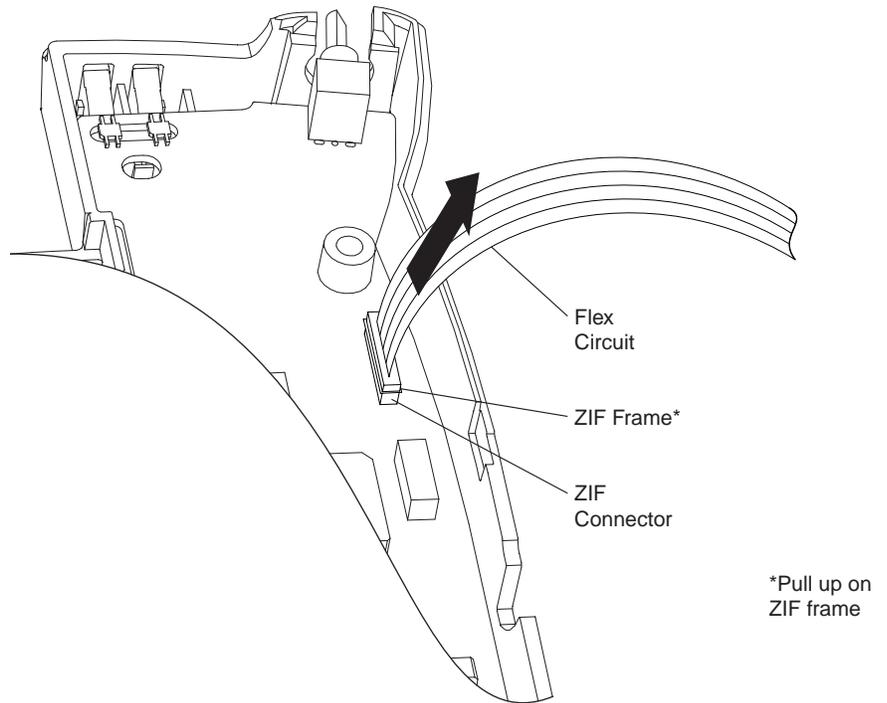

Figure 8 Disconnecting the Flex Cable
10. The universal coax subassembly (31) is now exposed. Gently twist (in a clockwise direction) and pull outward on the header until it clears the pocket lid housing (26). Then, pull the entire assembly upward, being careful not to pull on the flex circuit ribbon cable. Set the subassembly next to the unit.
11. Gently lift the chassis subassembly (8) away from the back housing (14), and set it on a flat working surface for further disassembly.
12. Gently press the purple pocket eject button (27) to disengage the pocket housing (5), and guide it out of the chassis. The eject spring (10) will fall off during this step. Set the pocket housing subassembly aside.
14. Referring to Figure 8, gently lift up the opening frame on the ZIF flex circuit connector, located on the PC board assembly (11), and slide the flex circuit ribbon out of the connector.
15. If necessary for replacement, remove the link (2) from the universal subassembly by twisting the link and prying it out of the float bracket holes.
1. Orient the console so that the volume knob (19) faces away from you and the DB-25 connector (on the back of the PCB) faces toward you. While holding the back housing (14) and the PCB (11) stationary, gently lift upward on both sides of the chassis (8) until the chassis disengages. Do not lift up on the PCB. Continue to lift up on the left side of the chassis while holding the right side stationary, thus rotating the chassis up and away from the back housing. Lay the chassis upside down next to the back housing.
2. Referring to Figure 8, gently lift up the opening frame on the ZIF flex circuit connector, located on the PC board (11), and slide the flex circuit ribbon out of the connector.